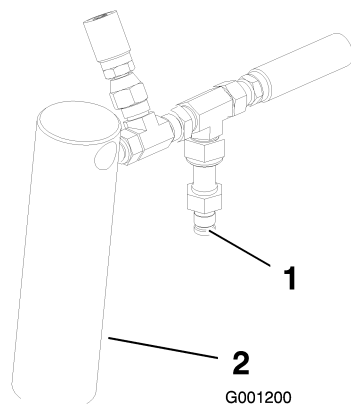

Figure 67
- Connect a pressure gauge to the test port behind the left lift cylinder (Figure 67).